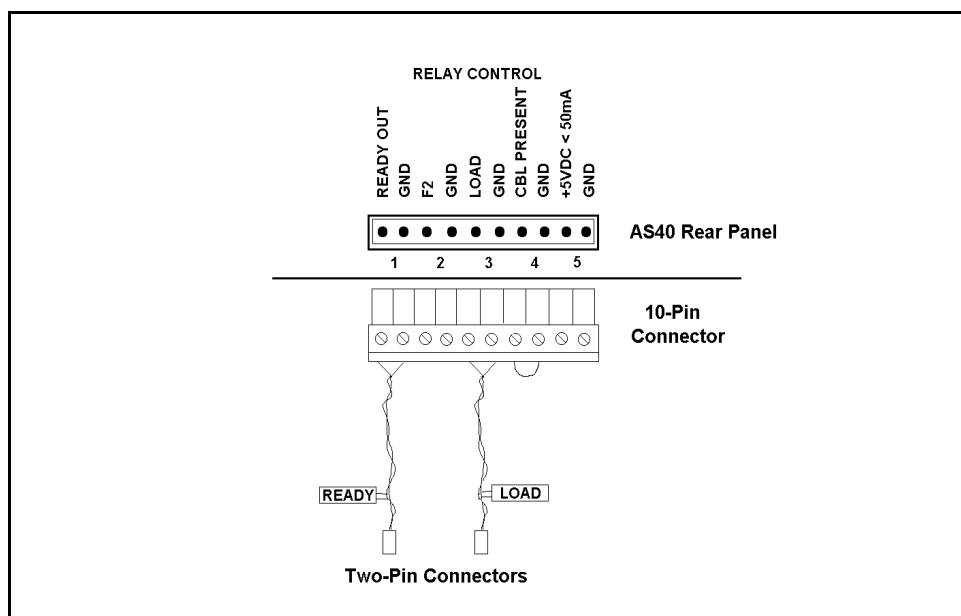

Figure D-2. Relay Control Cable Connections
1. Connect the Relay Control cable's 10-pin connector to the **RELAY CONTROL** connector on the AS40 rear panel (see Figure D-2).